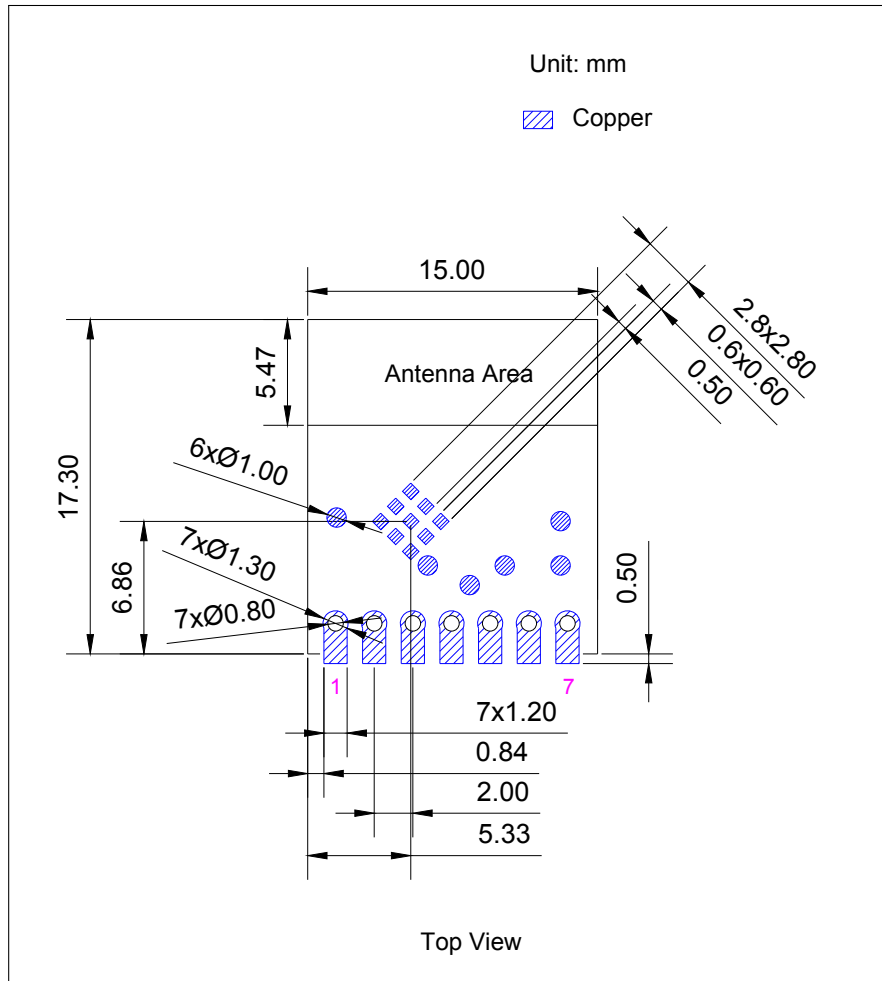

Figure 7: Recommended PCB Land Pattern
- Figure for the recommended PCB land pattern with all the dimensions needed for PCB design. See Figure 7 *Recommended PCB Land Pattern*.
- Source file of the recommended PCB land pattern to measure dimensions not covered in Figure 7. You can view the source files for ESP8685-WROOM-05 with Autodesk Viewer.